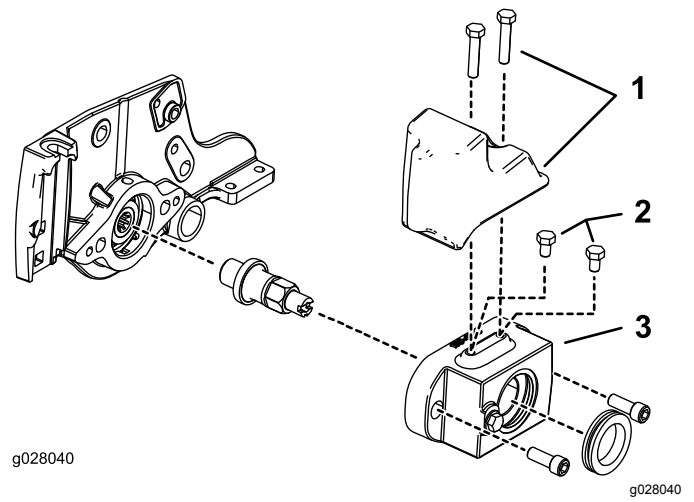

Figure 5
- **For a hydraulic-driver reel motor:** Install 2 bolts (5/16 x 1/2 inch) on the top of the roller brush housing as shown in Figure 5 (hydraulic 5-inch reel motors only).
- **For an electric-driven reel motor:** Order and install 1 weight (Part No. 127-4259-03) and 2 bolts (Part No. 322-7) as shown in Figure 5.